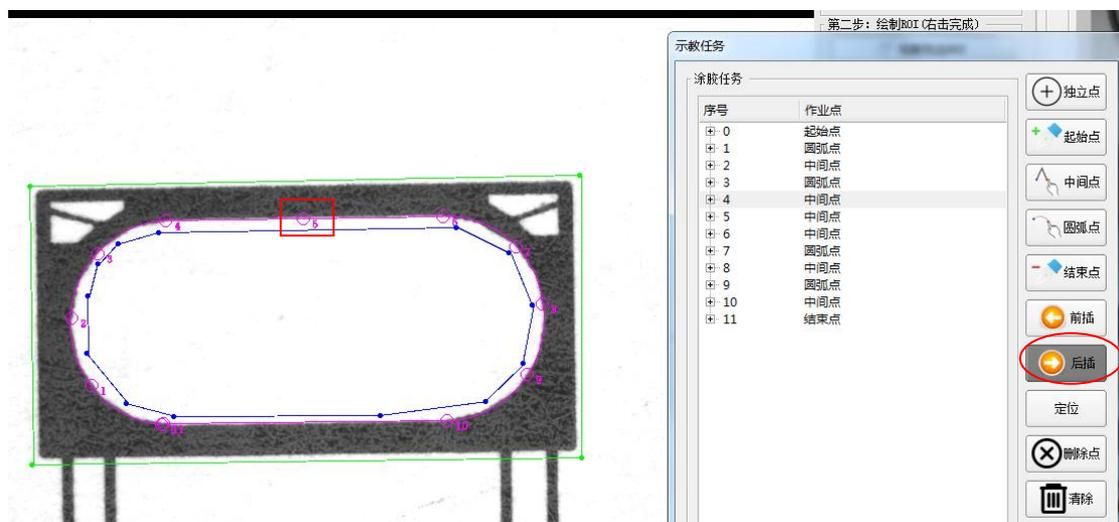

Figure 41 Point rear-inserting
13) After the task programming, if some points need to be added in the middle section, user can use ‘front insert’ or ‘rear insert’ button; for example, if one middle point need to be added after the No. 4 middle point, firstly click the No.4 point in the tasks list, and click ‘rear insert’ button, then click ‘middle point’ button; left click the mouse on the position need to add point in the left area of image, to complete the adding operation. After the operations, then click ‘rear insert’ to choose rear insert, as shown in figure 41; same operations for front insert before the selected point.